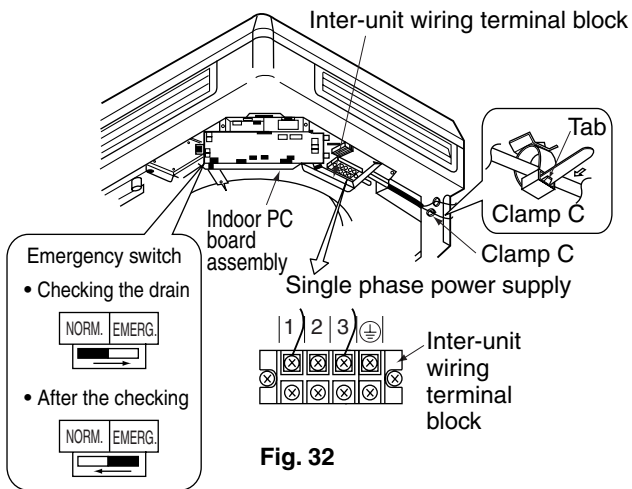

Fig. 32
- Remove the control box lid and change the emergency switch above the PC board assembly of the indoor unit from “NORM.” to “EMERG.”. Connect the single-phase power supply (1, 3) and ground wire to the inter-unit wiring (50Hz 220-240V) terminal block and confirm drain operation. Be sure to change the switch before turning on the power. (Refer to Fig. 32)